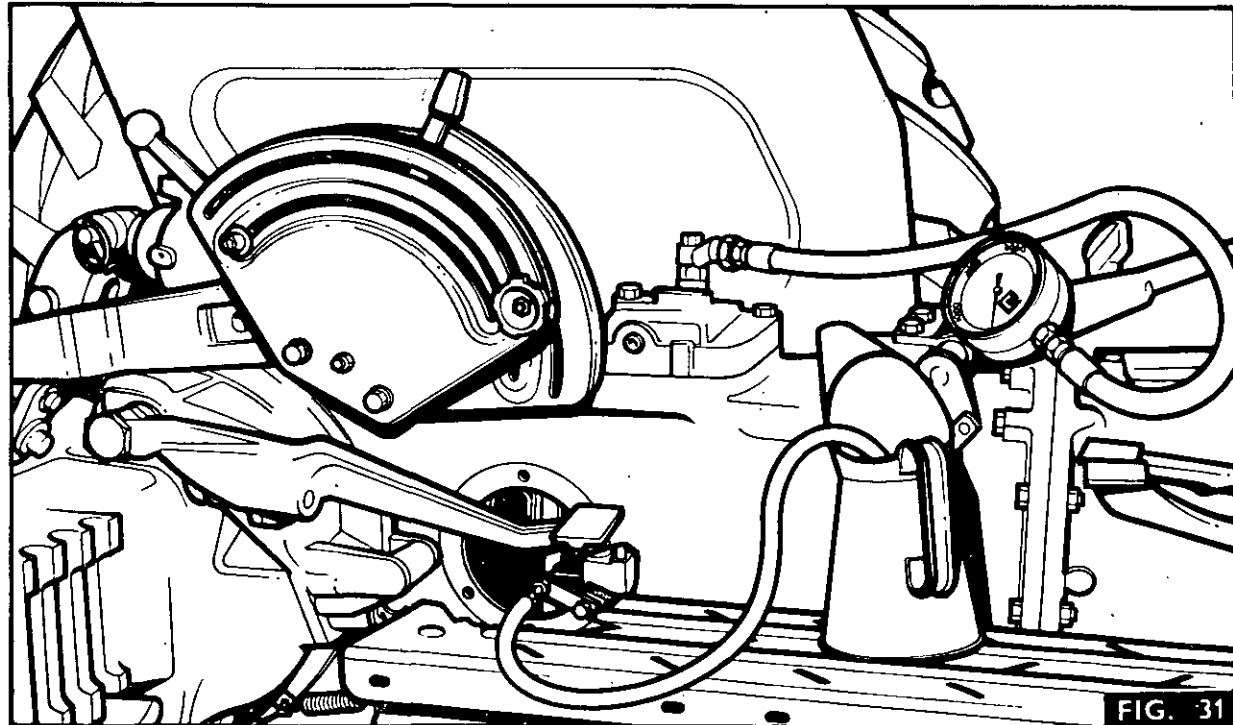

FIG. 31
4. Remove the side cover as stated in items 11 to 13 of operation 7A—03—38, then locate MF 359 in the orifice in the Pressure Control valve body (as shown in Fig.31) and place the other end in the side cover aperture, so that the oil is returned to sump.
1. Fig. 31. Remove the tube, of MF 359, from the side cover aperture and place it in a five litre (one gallon) container.